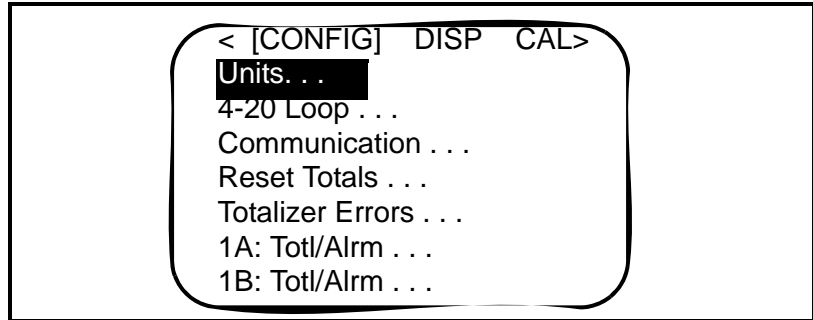

Figure 4-1: The CONFIG Menu
2. Press the [▶] key until CONFIG is bracketed and press [ENT]. The screen appears similar to Figure 4-1 below.
2. Press the [▶] key until CONFIG is bracketed and press [ENT]. The screen appears similar to Figure 4-1 on page 4-7.